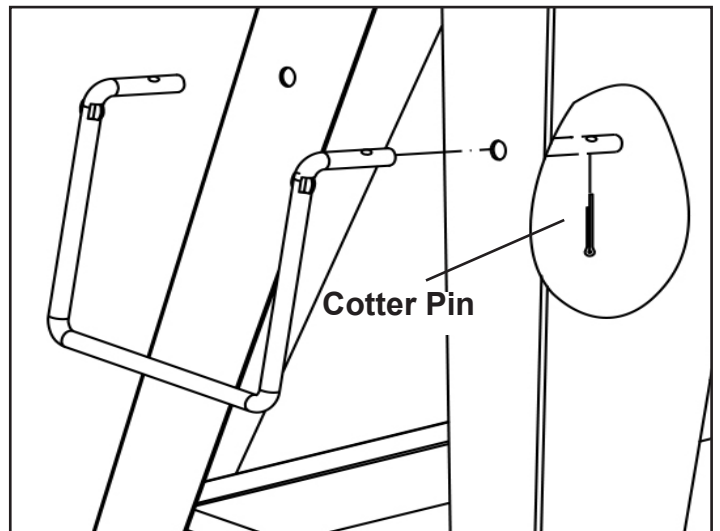

FIGURE 5
7. On the opposite stand legs, insert the handle into the pre-drilled holes and secure it with cotter pins. SEE Figure 5.